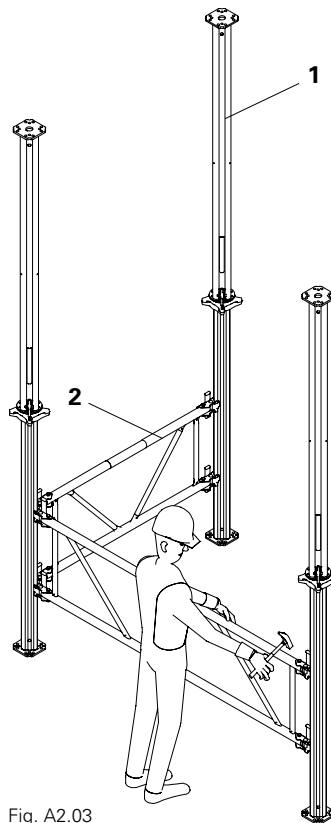

Fig. A2.03
Always mount the MRK frames (2) on the props (1) in such a way that the wedge can be hit into position with the hammer from top to bottom. (Fig. A2.03)